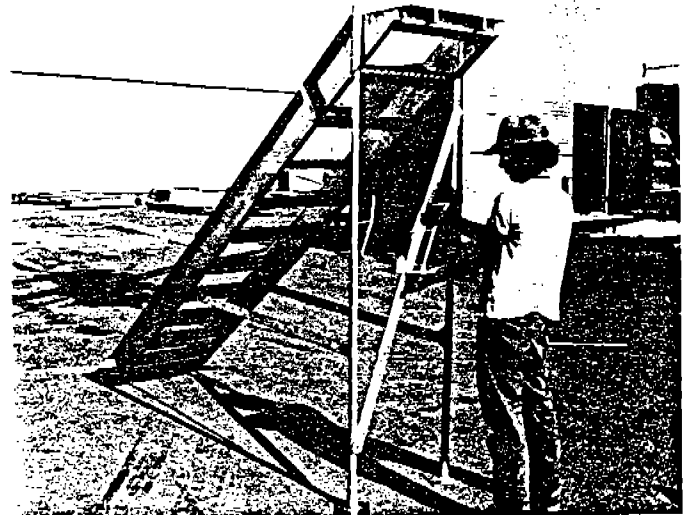

Fig. 10
- f. Secure 2 braces between the 2 legs to form an "X". Pin and snap key the braces to legs. Pin and key the braces together at the crook point of the "X". (Fig. 10)